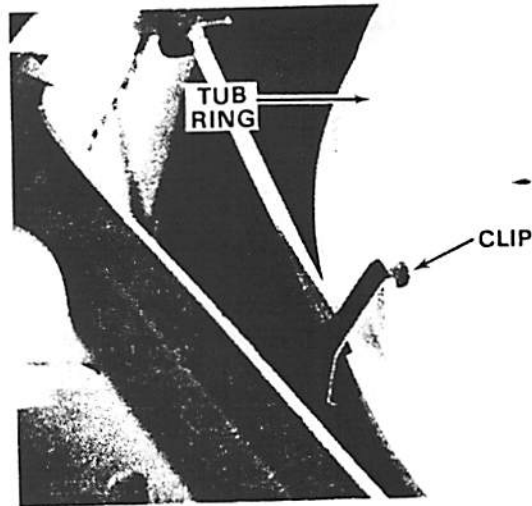

Fig. 14. Tub ring removal.
2. Remove the agitator cap, agitator, and the tub ring (Fig. 14).